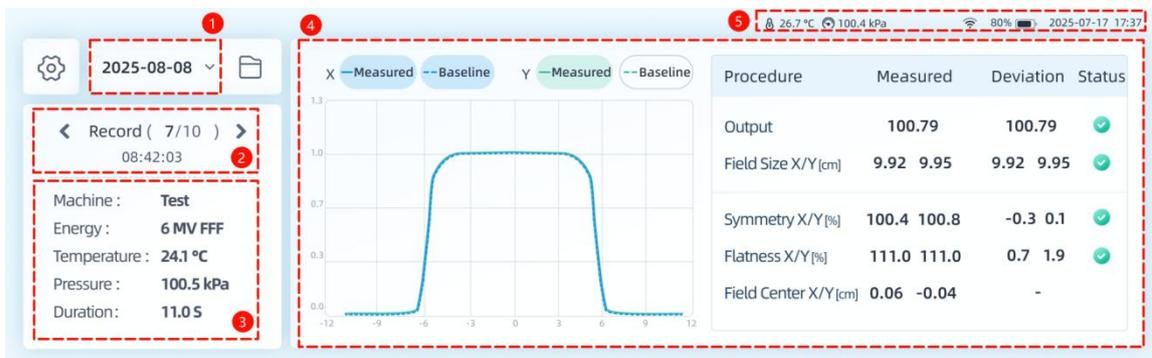

Figure 6. Home Screen
- Click on Figure 6 > [① Date Selection] to choose and view measurement records for a specific date. A blue dot next to the date indicates that test data is available for that date.
- Click on Figure 6 > [📁] button to access the data management interface, where users can view all measurement records and perform deletion or clearing operations.
Click Figure 6 > [⚙️] button at the top left corner of the main interface to enter the settings menu. Then click on "Baseline" to access the baseline settings page.